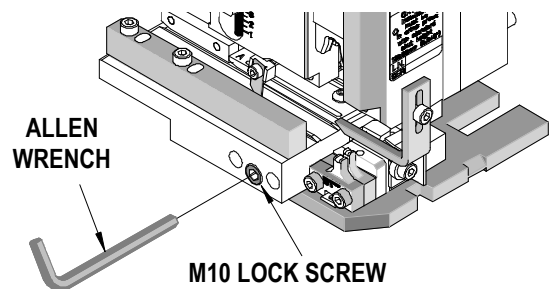

Figure 2-10
2. To position the terminal track in or out, first use a 5mm hex wrench to loosen the M10 lock screw located on the front of the track. See Figure 2-10.